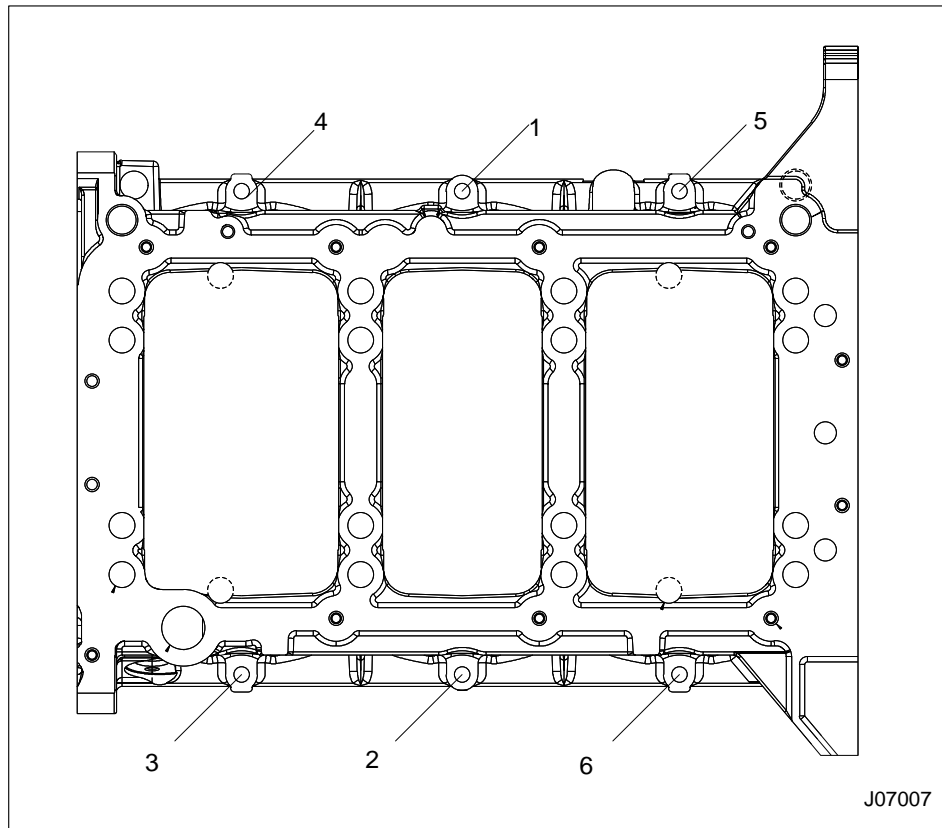

Figure 409 Lower crankcase outer bolt tightening sequence
7. Install six bolts (M8 x 30) around outside of lower crankcase. Tighten bolts to the Standard Torque (page 405) using the sequence shown in "Lower crankcase outer bolt tightening sequence" (Figure 409).